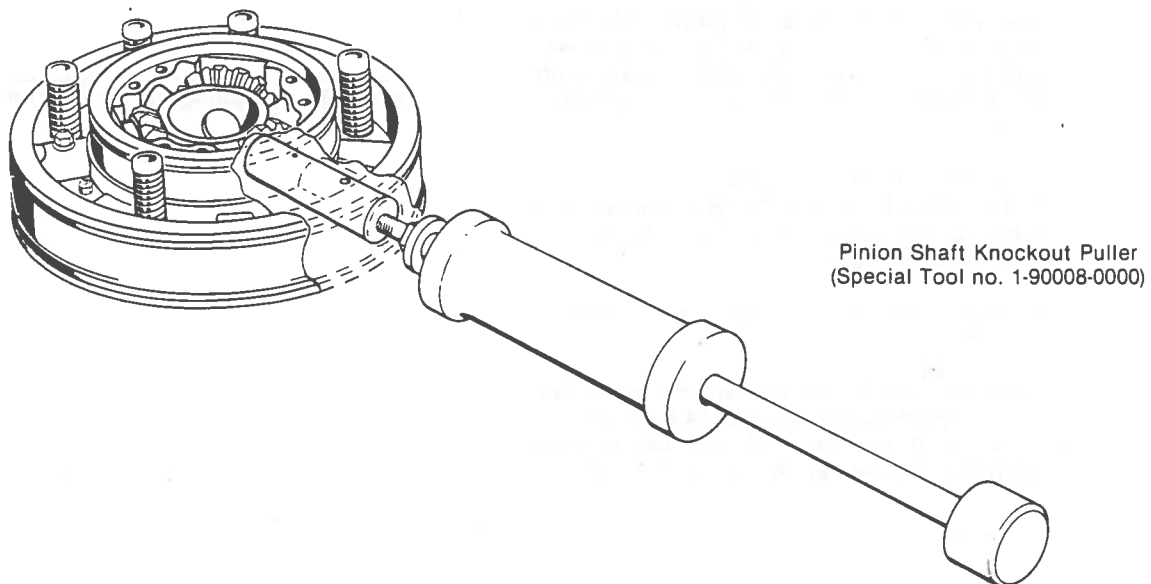

Figure 19. Removal of Pinion Shaft from Gear Carrier.
7. Remove capscrews and locknuts securing pinion shafts in bevel gear carrier and remove bevel pinion shaft with puller (See special tool No. 1-90008-0000, pinion shaft knockout puller). Refer to fig. 19.